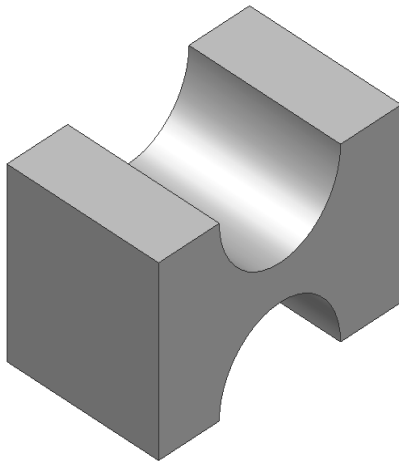
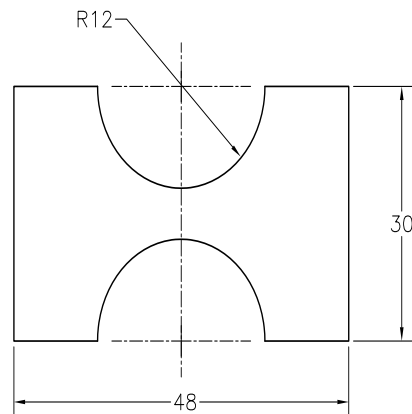

Figure 2-54 Model for Tutorial 3
Figure 2-55 Sketch for Tutorial 3
In this tutorial, you will draw the sketch for the model shown in Figure 2-54. The sketch of the model is shown in Figure 2-55. Do not dimension the sketch as the dimensions are given only for reference. **(Expected time: 30 min)**
- b. Draw the sketch by using the **Arc** and **Line** tools, refer to Figure 2-55.